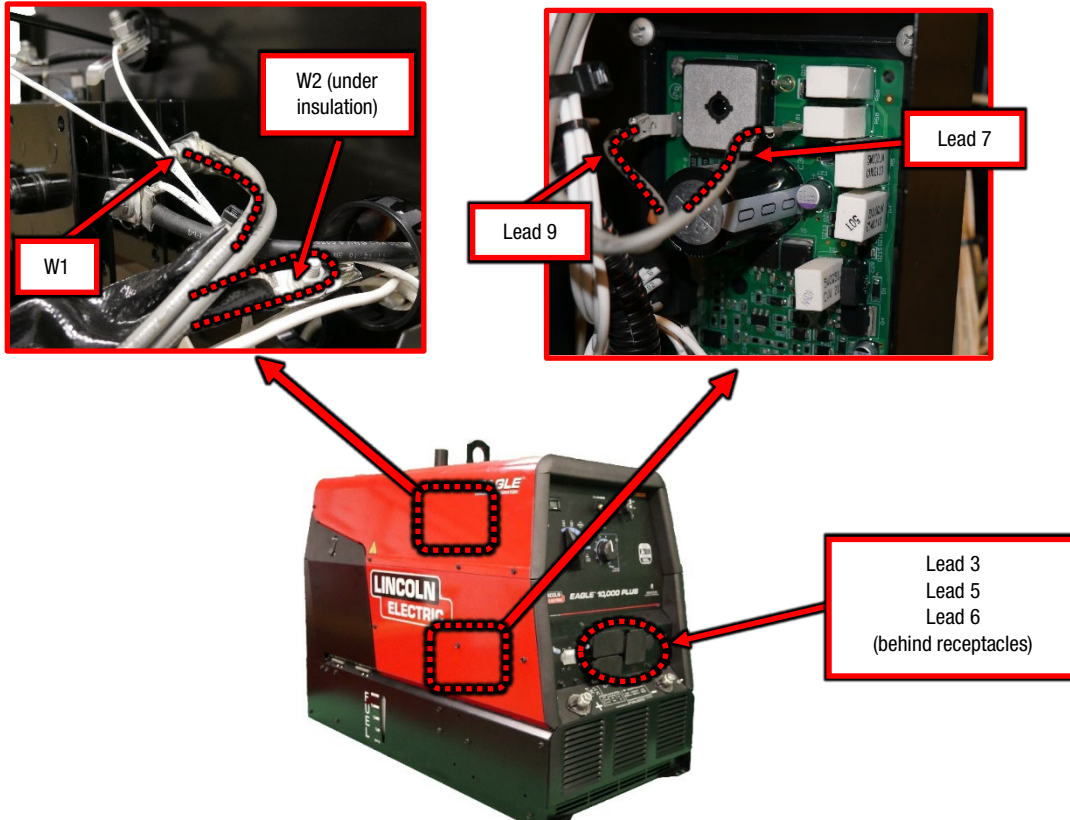

Figure F.2
- A.2. Label and disconnect the following connections, refer to Figure F.2.
- A.3. Perform the static measurements in Test Table 1, refer to Figure F.2 for test point locations.